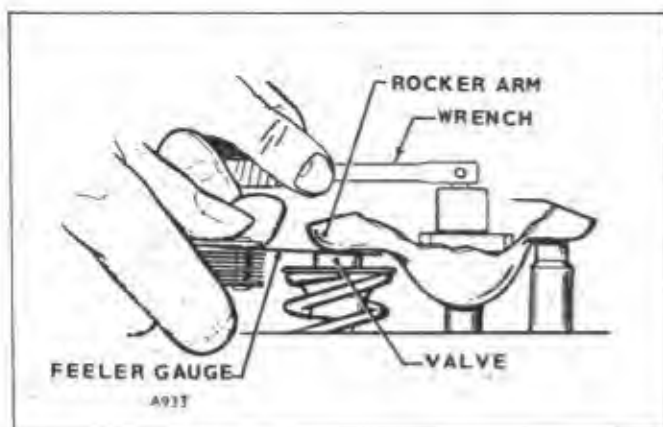

Figure 12. Checking Valve Clearance
4. After allowing engine to cool, check the clearance with a feeler gauge between the rocker arm and the valve (see Fig. 12). Increase or reduce the clearance until the proper gap is established. Correct valve clearance is .011 in. intake and .008 in. exhaust. Compression of early (pre-Spec P) engines will indicate 300 to 350 psi. Starting with Spec P, compression tests should indicate 350-400 psi.